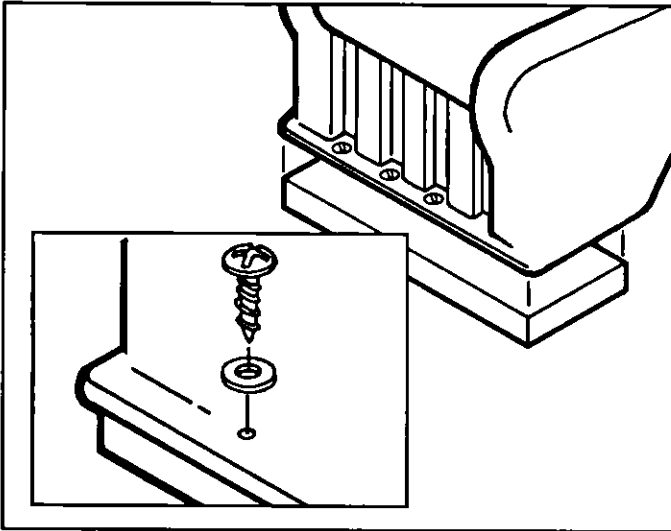

FIG. 9 FOR PLAYDECK ONLY
1. If the Twister Tube Slide is placed on the Playdeck, a 2" x 6" x 18 board must be placed at the bottom of the run-off section (see Fig.9). Position the 2" x 6" x 18" board underneath the run-off section and drill three pilot holes through the slide and into the 2" x 6" x 18". secure the slide to the board using three evenly spaced pan head screws and washers (see Fig.9).